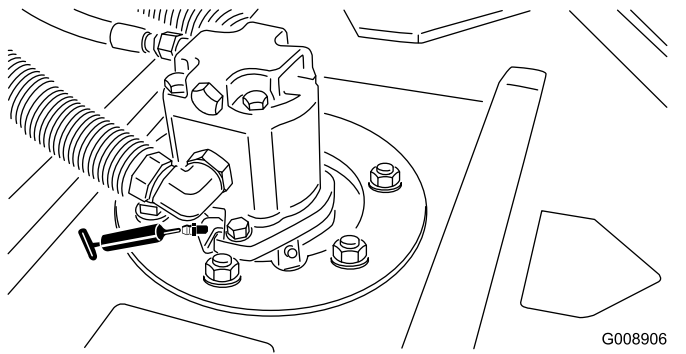

Figure 43
- Cutting unit spindle shaft bearings (1 per cutting unit) (Figure 43)